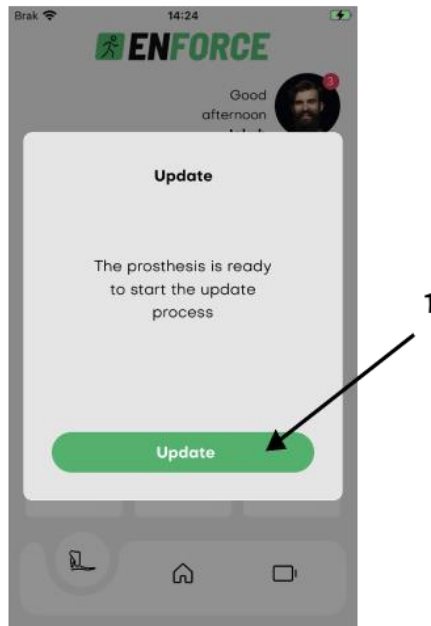

Figure 20: Begin update process.
The mobile app and the device will then carry out the processes necessary for the update. The device will indicate that the update is ready by flashing the LED Ring pulsatingly, as described in *Table 1*. To proceed, press the Update button (1), as shown in *Figure 20*.